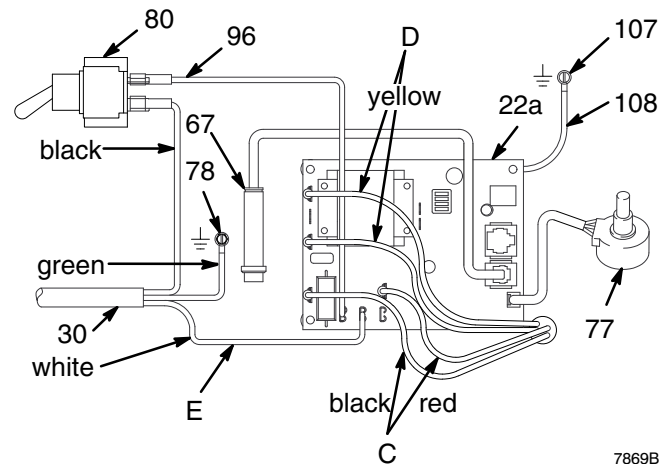
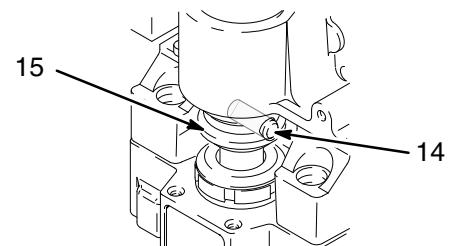
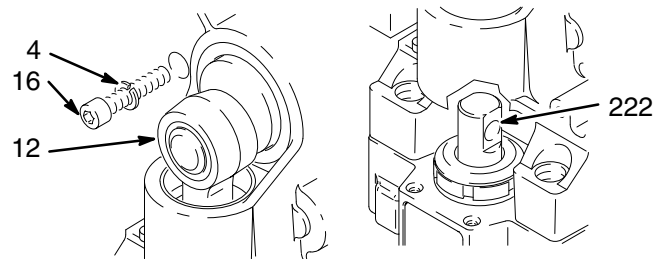
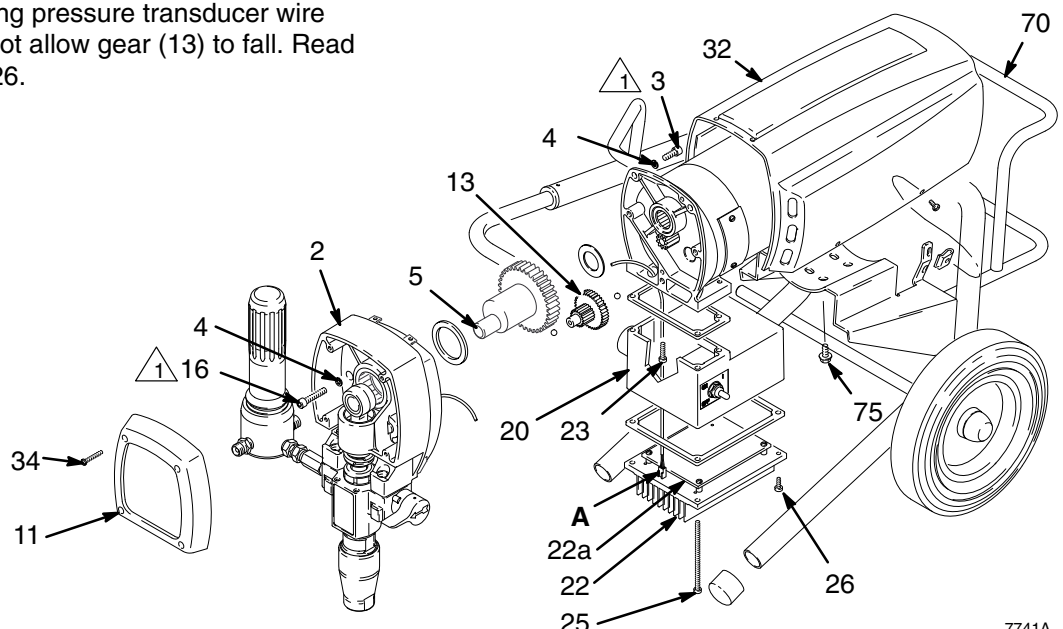

Fig. 13
Fig. 19
Fig. 20
Fig. 21
4. Remove screws (25, 26). Lower control board (22a). Disconnect two leads (C) from motor to board. See Fig. 13.
1. Connect red and black motor leads (C) together with a test lead. Turn motor fan by hand at about two revolutions per second. See Fig. 13.
NOTE: See Fig. 21 except where noted.
1. Try to stop pump with piston rod (222) in lowest position. To lower piston rod manually, remove shroud (32) and rotate motor fan blades. Use a screwdriver to push retaining spring (15) up and push out pin (14). See Fig. 19.
3. Remove motor shield (32).
4. Lift connecting rod. Remove screws (25, 26) and lower heat sink (22) and motor control board (22a). Disconnect motor wires and pressure transducer wire (A) from motor control board. Remove heat sink (22) and motor control board (22a), screws (23), and junction box (20). Refer to Fig. 21 and 13.
5. Remove drive housing cover (11).
6. Turn displacement pump rod (222) so pin hole aligns with bottom drive housing screw (16). See Fig. 20. Remove three drive housing screws and lockwashers (16, 4). See Fig. 20 and 21.
8. Tap lower rear of drive housing (2) with a plastic mallet to loosen motor. Pull drive housing straight off motor while guiding pressure transducer wire (A) from motor. Do not allow gear (13) to fall. Read **CAUTION** on page 26.
9. Remove four screws (75) and lift motor off cart (70).
10. Align new motor with cart and reinstall screws (75).
12. Connect wires to motor control board (22a). Refer to Fig. 13. Install motor control board.
13. Connect piston rod (222) to drive housing; see page 22, **Installing Pump**, Step 2 and **WARNING** following it.
14. Install shroud (32) and drive housing cover (11).
2. Remove screws (25, 26) and lower heat sink (22) and motor control board (22a). See Fig. 21.
2. Remove screws (25, 26) and lower heat sink (22). See Fig. 21.